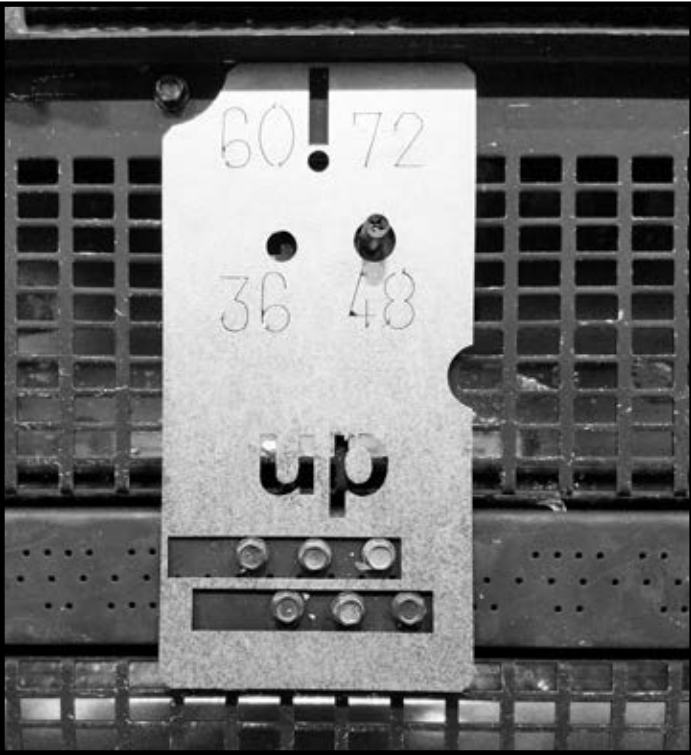

Figure 3. Insert Screws into Six Burner Ports
10. Insert six self-tapping screws into the 6 burner ports that lie within the burner port fixture rectangle holes. See Figure 3.